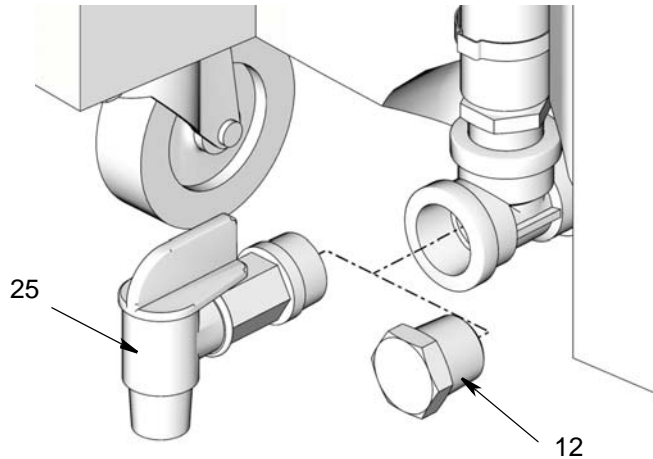

FIG. 1
- For evacuation systems, be sure the drain plug (12) is installed (also see instruction manual 308719.)
- For gravity fed systems, remove drain plug (12) and install drain valve (25).
**NOTE:** In FIG. 1 the drain valve (25) is shown in the closed position. To open it, rotate the handle so it points away from the drum.
Before you add any fluid to the drum, verify the pipe plug (12) or drain valve (25) is installed and the drain valve handle is closed (facing toward the drum) (FIG. 1, page 4).
When drum is full, drain fluid by removing pipe plug (12) (see the Evacuation System instruction manual 308719) or rotate the drain valve handle (25) (FIG. 1, page 4) so it points away from the drum and empty contents into an approved disposal container.